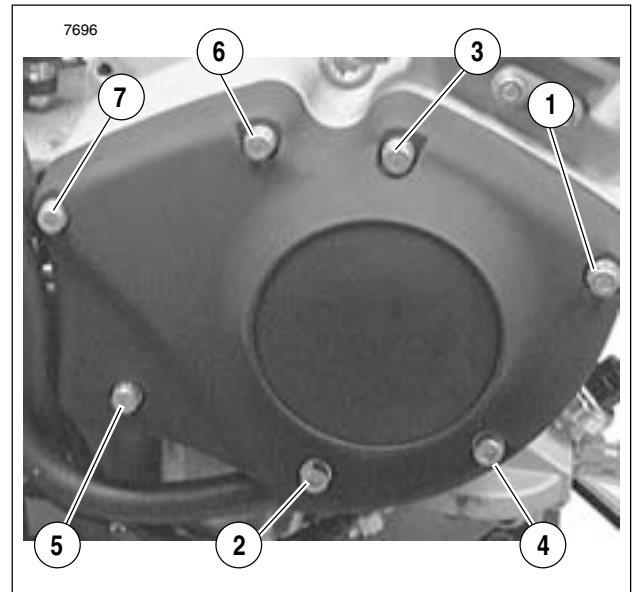

Figure 3-112. Gearcase Cover Mounting Screw Torque Sequence
5. See Figure 3-112. Install gearcase cover over all gears and onto right crankcase half. Secure cover to crankcase half with 7 socket head screws. Tighten screws evenly to 80-110 **in-lbs** (9-12 Nm). Use torque sequence as shown in Figure 3-112.